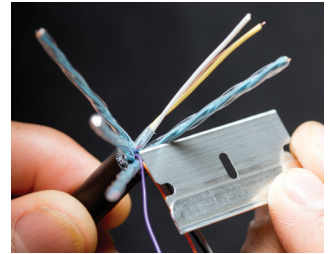

Figure 10.
Step 4 Using a sharp razor blade, take the twisted pairs and carefully strip the foil and Mylar insulation leaving 3/8" (10mm) of insulation at the very base (Fig. 10). Be careful not to cut too deep. You will see the un-insulated drain wire. Be very careful not to cut the drain wire when you strip the foil and the Mylar off.